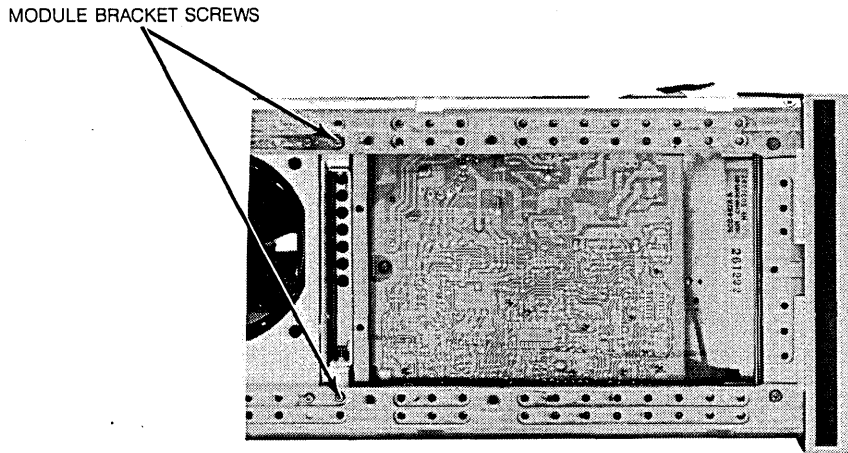

Figure 6-43. Module Bracket Mounting Hardware
- f. With a Torx T-10 driver, remove the modules rear mounting bracket screws (see figure 6-43).